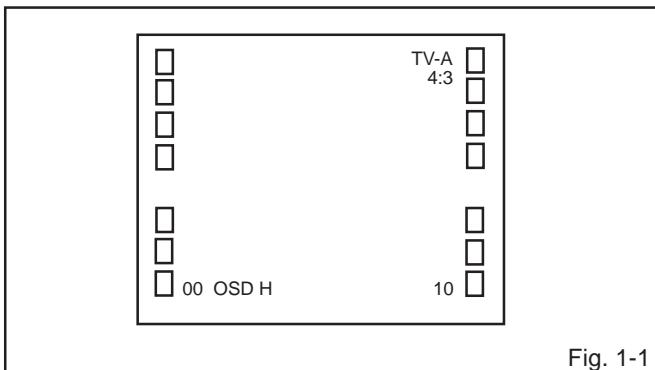

Fig. 1-1
1. In the condition of NO indication on the screen. Press the VOL. DOWN button on the set and the Channel button **(9)** on the remote control for more than 2 seconds to appear the adjustment mode on the screen as shown in **Fig. 1-1**.
4. Activate the adjustment mode display of **Fig. 1-1** and press the channel button **(02)** on the remote control to select "CUT OFF".
4. Activate the adjustment mode display of **Fig. 1-1** and press the channel button **(11)** on the remote control to select "R.BIAS".
4. Activate the adjustment mode display of **Fig. 1-1** and press the channel button **(17)** on the remote control to select "BRI.CENT".
3. Activate the adjustment mode display of **Fig. 1-1** and press the channel button **(21)** on the remote control to select "CONT.MAX".